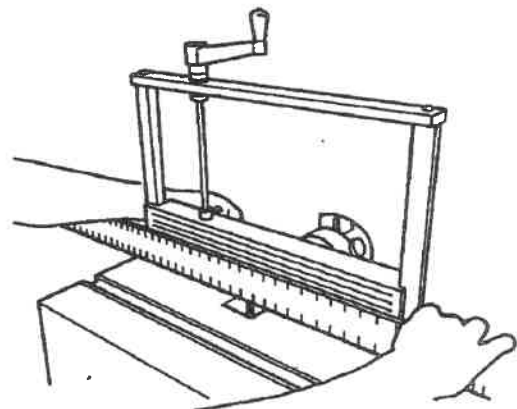

Fig. B-9
7. If the crank is oriented in any position other than parallel with the header bar, it needs to be moved. Turn the crank clockwise so that it is parallel to the header bar (15) and it is oriented in the position you desire. This can be with the crank pointing to either the left or right guide rail. Fig. B-9 shows the knob pointing to the right guide rail.
10. Move the Allen wrench clockwise or counter-clockwise to adjust the slide, as demonstrated in Fig. B-9. (Do NOT unscrew the setscrew in the nut.) As you perform this adjustment, you will see the gap disappear. Again, you want to adjust the slide so that the top of the bit is even- or flush- with the working surface. Make sure the crank does not move when making this adjustment.